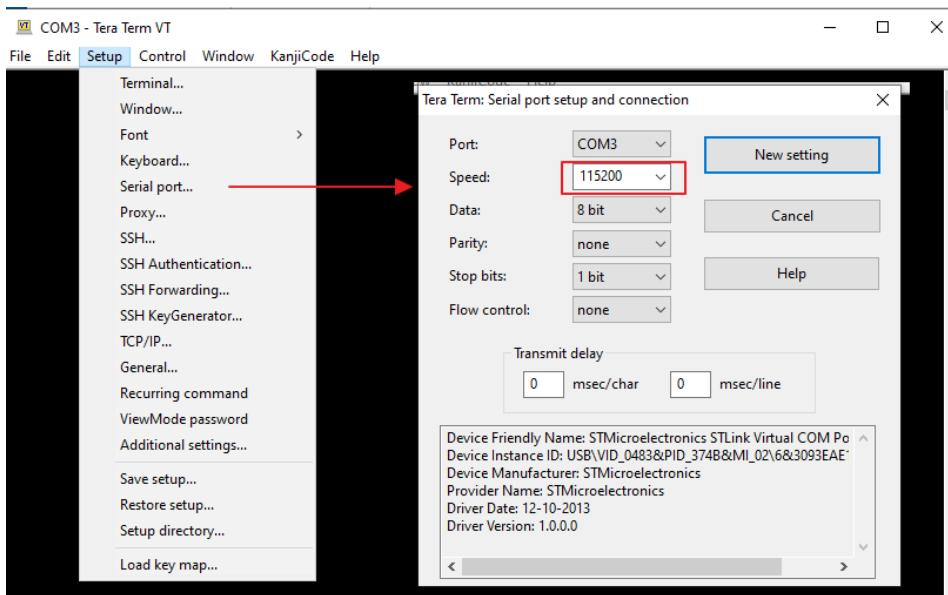

Figure 14: Set the baud rate
**Step3:** Go to Setup>Serial port, change the Speed to 115200 and click on new setting as showed in figure 14.